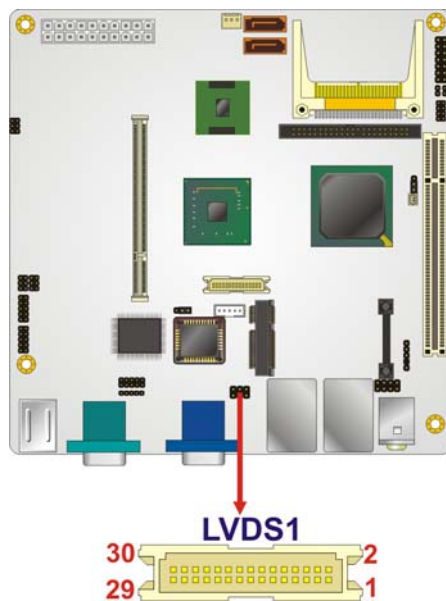

Figure 4-11: LVDS LCD Connector Pinout Locations
- CN Location:** See **Figure 4-11**